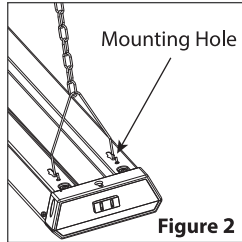

Figure 2
2. Attach chain to V-hooks then insert hooks into mounting holes located on top of fixture (See Figure 2). Do this for both ends of lamp.